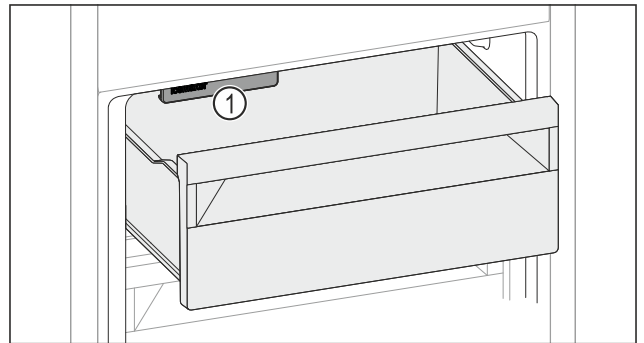

Fig. 155
- Watch out for the IceMaker Fig. 155 (1).